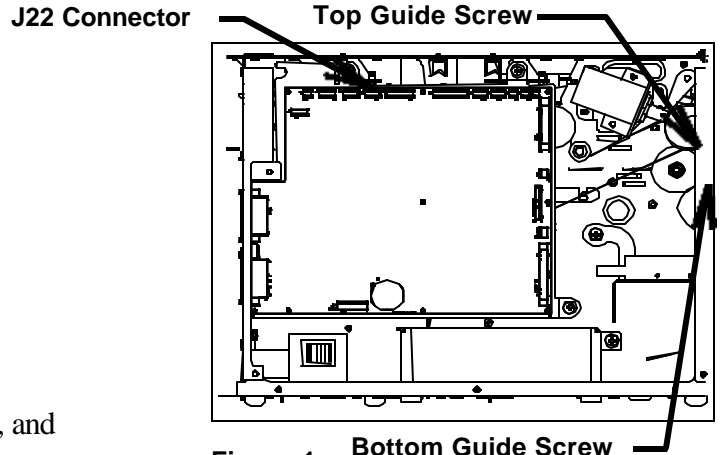
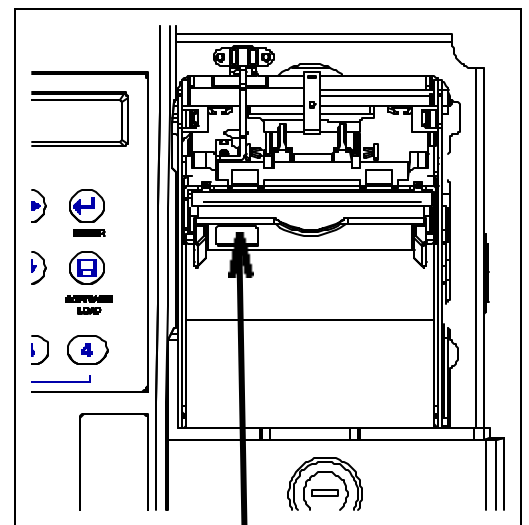

Figure 1
Figure 2
5. Unplug Exit Sensor's J22 connector from the Main Controller Board. (Figure 1)
6. Open the Zone 2 Access Door (Figure 2), remove the two Top Guide Screws (Figures 1 and 3) to the internal curved guide and loosen the two Bottom Guide Screws (**do not remove**). **Rotate the paper path knob 'B' CW to rotate the roller (or press down on rotate the internal curved guide outward.**